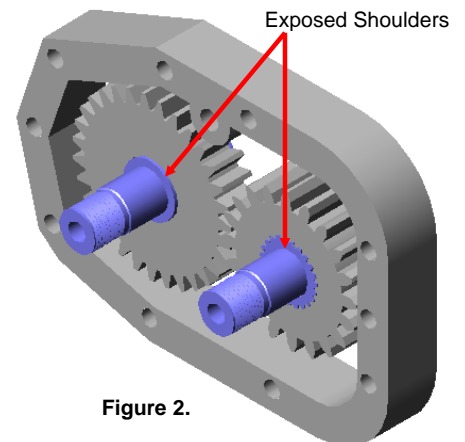

Figure 2.
3.4 With motorcycle in neutral, pull both the shafts out and simultaneously push the OEM outermost gears in until seated completely to expose the shoulders of both shafts. The countershaft shoulder should be flush with the gear face. For the main shaft the gear would "hang over" the shoulder a small bit. Figure 2